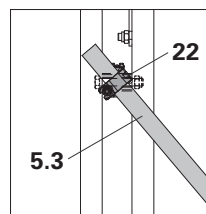

Fig. A3.06b
- Diagonally fix scaffold tube Ø 48.3 (5.3) to the scaffold tube pieces (5.7) using Swivel Couplings DK 48/48 (22).
- Bracing. (Fig. A3.06b)